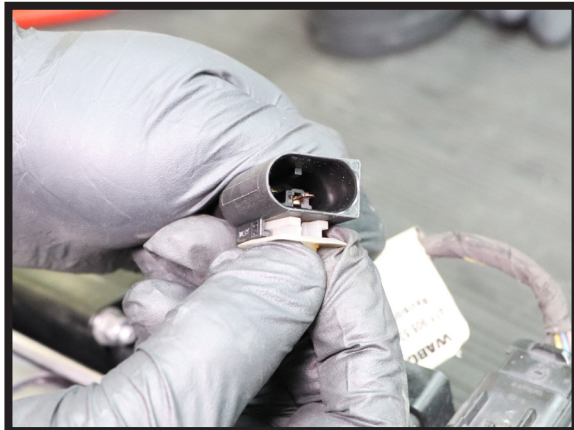

FIGURE 32
7. ATTACH THE PROVIDED MOUNTING CLIP TO THE ELECTRICAL CONNECTOR FROM THE PREVIOUS STEP. THIS WILL THEN BE HOOKED ON TO THE COMPRESSOR/VALVE BLOCK ASSEMBLY. (FIGURE 32, 33)